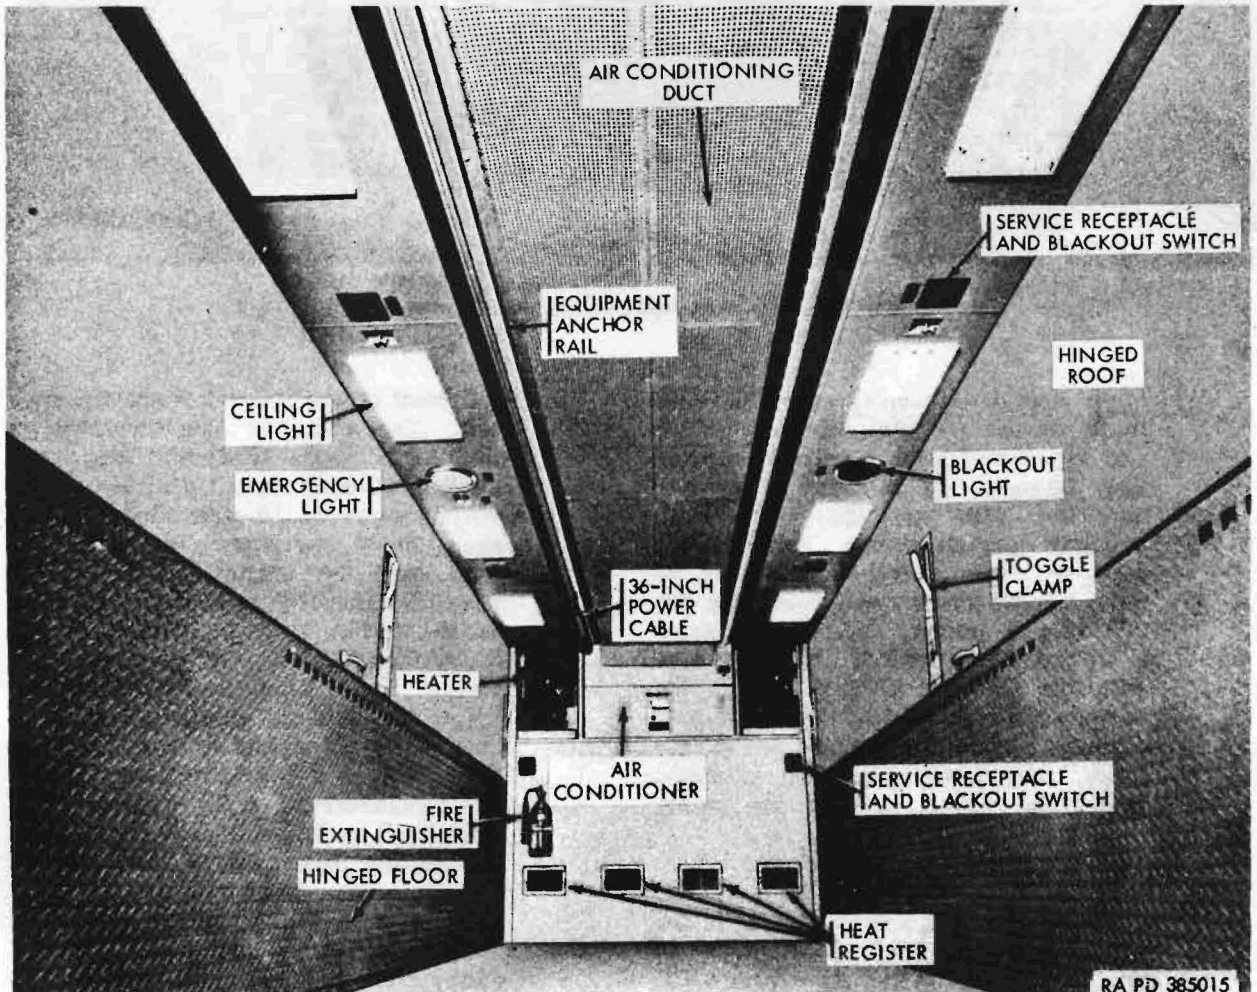
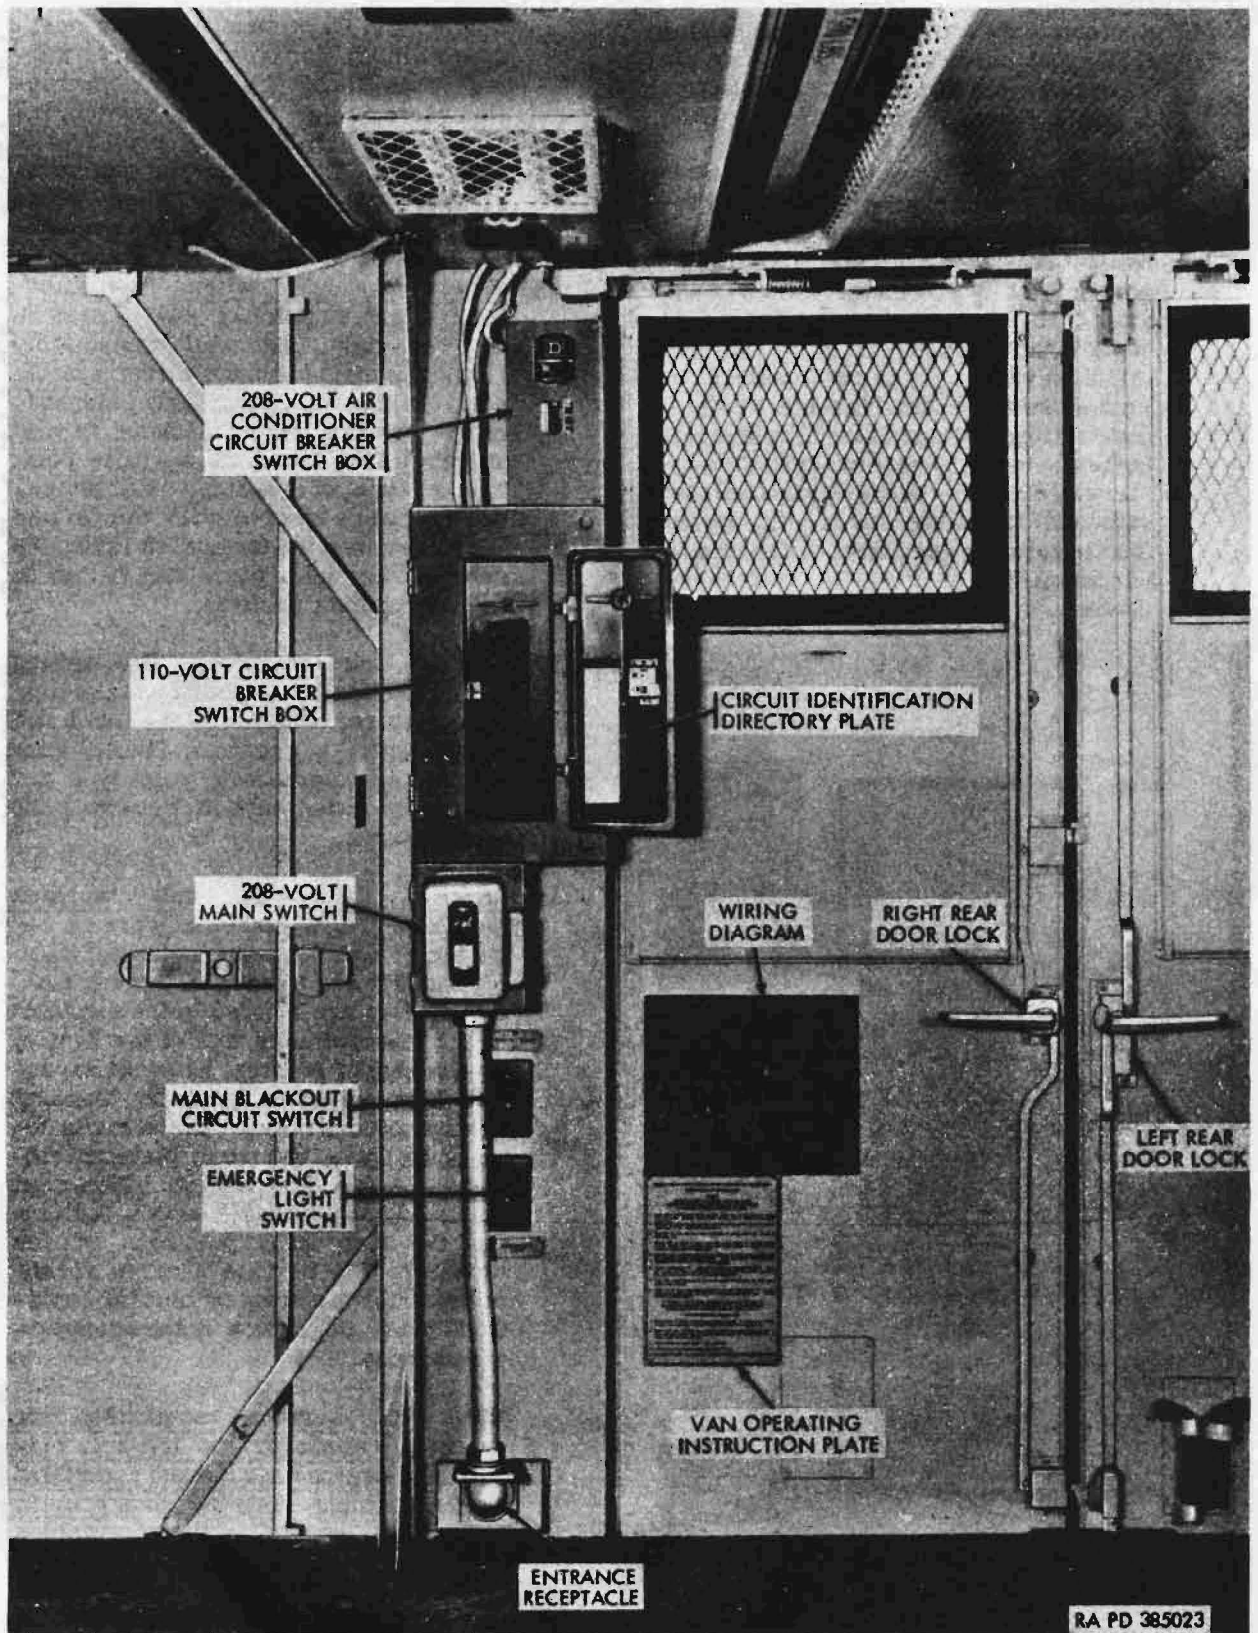

Figure 82. Van body in retracted position - front interior view
Figure 84. Van electrical controls
- (11) Main switch (208-volt). The 208-volt main switch (fig. 84), located on the van right rear wall, controls current flow between the entrance receptacle and the 110- and 208- volt circuit breaker switch boxes immediately above it. The switch is nonfused, 3-pole, single-throw type, designed for 208-volt ac power, and is operated by a rocker-type switch lever marked with the ON and OFF positions. To energize the 110-volt and 208-volt circuits, press the upper end of the lever. To deenergize the circuits, press the lower end of the lever.
- (12) 110-volt circuit breaker switches. Twelve 110-volt, push-type circuit breaker switches are contained in the circuit breaker switch box (figs. 84 and 85), located on the van right rear wall. Six of the switches are used to protect and control the 110-volt auxiliary e-
- (13) Main blackout circuit switch. The main blackout circuit switch (fig. 84) is located on the van rear wall immediately below the 208-volt main switch. The switch is a 3-pole, toggle type of 10-amp, 110-volt capacity and is used to control the blackout circuit of the electrical system. In the ON position, the switch includes the blackout relay in the ceiling light and service receptacle circuits so that these circuits are interrupted by the door-operated switches when the doors are opened for operation under blackout conditions. In the OFF position, the switch excludes the blackout relay, thus ex-
- (14) Emergency light switch. The emergency light switch (fig. 84), located on the van right rear wall immediately below the main blackout circuit switch, controls the emergency light independently of the main blackout circuit switch. The switch is a single pole, toggle type of 10-amp, 110-volt capacity, and is marked with the ON and OFF positions on the switch lever. To operate the light, place the switch in the appropriate position.
- (15) Ceiling light switches. The ceiling light switches are located in the ceiling light fixtures adjacent to the tubes and lamps which they control. The switches are of the commercial push type and can be operated without removing the mesh guards.
- (16) Service receptacle and blackout switches. Eight combined service receptacle and blackout switches (figs. 82 and 83) are located in the van ceiling and two are located in the van front wall. The switches are of the 3-pole, toggle type of 10-amp, 110-volt capacity. The switches provide blackout control of their associate circuits independently of the main blackout circuit switch. The switch instruction plates, adjacent to each switch, indicate the ON and OFF positions of the switches. To operate a given receptacle under blackout or normal conditions place the switch in the appropriate position.
- (20) Heater register controls. The heater register controls (fig. 82) are integral with the registers located on the van front wall, and are used to open the registers when it is desirable to heat the van interior quickly. To open the registers, pull the controls upward.
- (23) 208-volt air conditioner circuit breaker switch. The 208-volt air conditioner circuit breaker switch (fig. 84), contained in a box located on the van right rear wall immediately above the 110-volt circuit breaker switch box, protects and controls the air conditioner circuit. The switch is a thermal type of 20-amp, 208-volt capacity, marked with ON, OFF, and TRIPPED positions. To energize the air conditioner circuit, place the switch in the ON position. To deenergize the circuit, place the switch in the OFF position. When the circuit has been overloaded, the switch automatically breaks the circuit and moves to the TRIPPED position. To reenergize the circuit when the switch is in the TRIPPED position, first place the switch in the OFF position, then in the ON position.